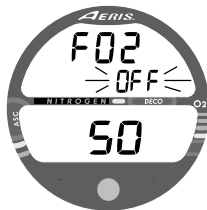

Fig. 25 - SET FO2 DEFAULT
- After having set and accepted the PO2 Alarm Set Point, the Set FO2 50% Default screen appears with the Set Point flashing (Fig. 25).